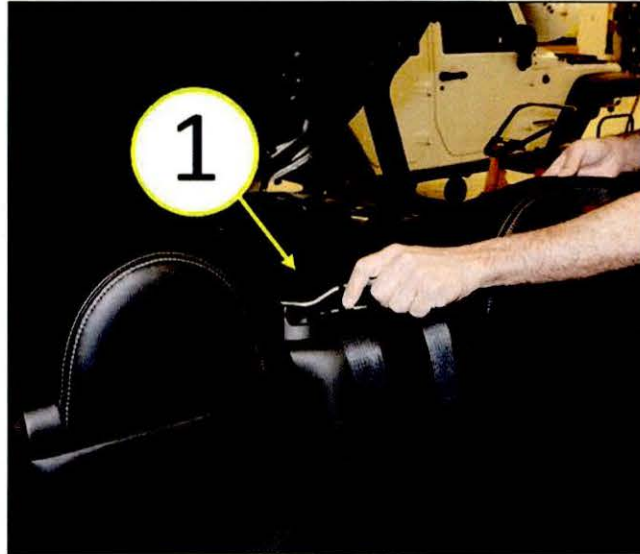

Fig. 9 Rear Shelf
12. Using a trim stick or equivalent, remove the rear shelf/retractor/seat back cover(Fig. 9).